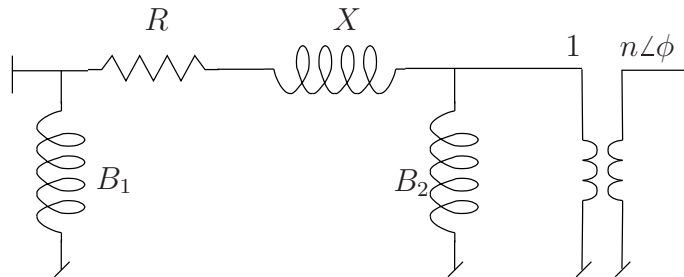

Figure 2: transformer equivalent
Transformers are represented by the equivalent shown in Fig. 2. B_1 or B_2 can represent the magnetizing reactance. Normally one of these two parameters is zero. n (resp. ϕ) is the magnitude (resp. the phase angle) of the transformer ratio.
Now, the R, X, B_1, B_2 parameters of Fig. 2 are often provided by the manufacturer in per unit on the V_{N1} base voltage. The corresponding per unit values on the V_{B1} base voltage are given by:
The transformer can have its tap position adjusted automatically so as to maintain a voltage in a range $[V^0 - \epsilon, V^0 + \epsilon]$ where V^0 is the setpoint and ϵ half the deadband. This corresponds to in-phase regulating transformers. The regulated bus can be either the left or the right bus in Fig. 2. When the tap position (and hence the ratio n) of the transformer varies, the R, B_1, B_2 and ϕ parameters remain constant, while X may vary if desired. Piece-wise linear variations of n and X with the tap position may be specified.
- * FROM_BUS (max 8 characters) : name of the bus on the “1” side of the ideal transformer (cf Fig. 2)
- * TO_BUS (max 8 characters) : name of the bus on the “n” side of the ideal transformer (cf Fig. 2)